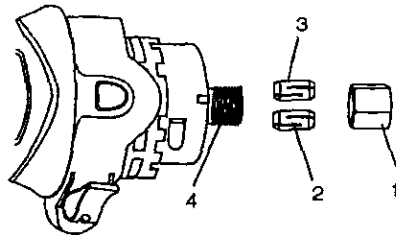

Fig. 3
The cutting bits for this tool are locked into place with a collet nut (1) and collet (see Fig. 3). The $\frac{1}{8}$ " collet (2) is used for holding hobby tool accessory bits. The $\frac{1}{4}$ " collet (3) is supplied for holding SMALL router bits with a $\frac{1}{4}$ " shank.